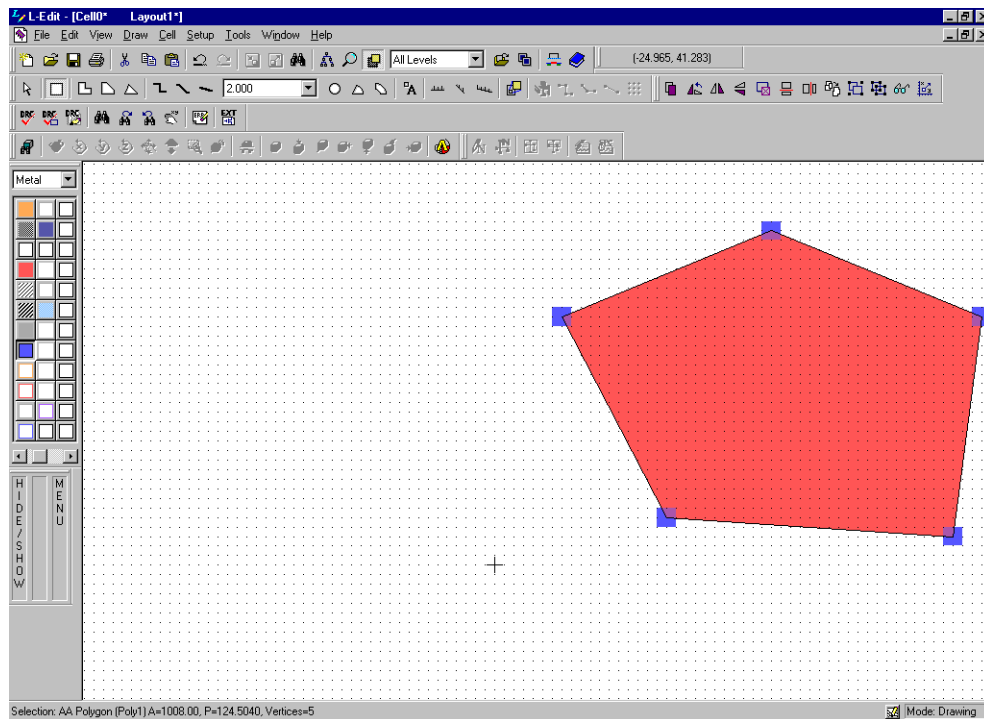

Figure 58: Polygon
- ☒ Create a five vertex polygon (Figure 58).